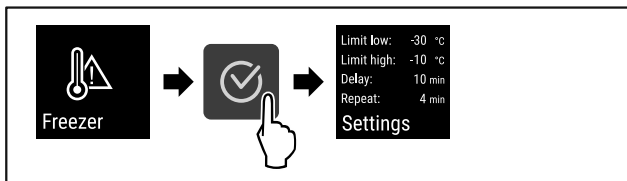

Fig. 138
- ▶ Complete steps (see Fig. 138).